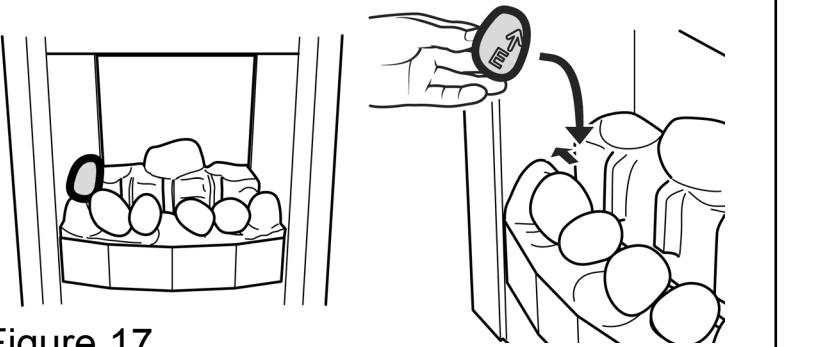

Figure 17.
7. Hold pebble 'E' upright with the arrow pointing to the top. Place pebble 'E' between the front and rear base pebbles. It should rest against the side of the firebox. (See figure 17).